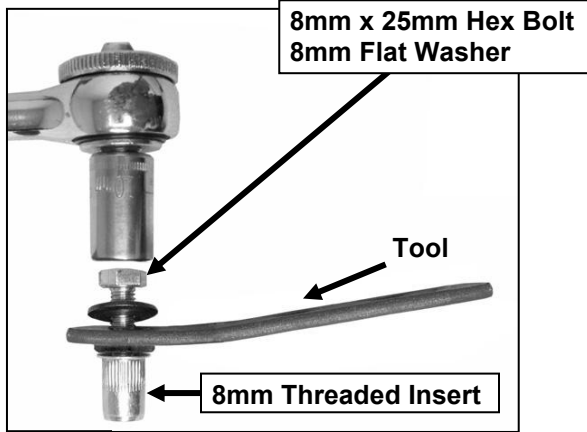

Fig 12
12. Select (1) M8 Hex Bolt, (1) M8 Flat Washer, (1) M8 Insert Tool and (1) M8 Threaded Insert. Assemble the tool as pictured in **(Figure 12)**. Hold the Tool assembly and push the threaded Insert into the correct hole in the frame channel identified in **Step 11**, **(Figures 1 & 11)**. **IMPORTANT:** Threaded Insert cannot be removed once installed. Verify that Insert is in the correct hole in the frame channel before proceeding.